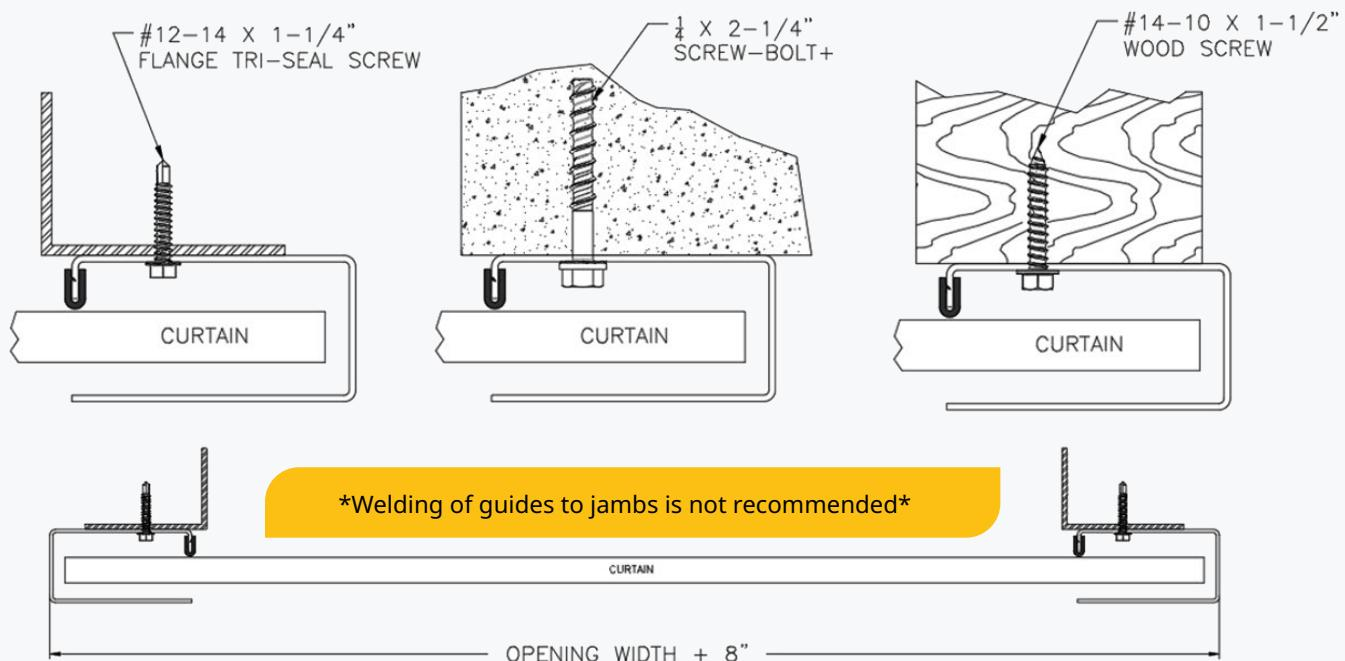

figure 15
- ♦ The guides should be positioned centered on the opening spaced curtain width +1" apart, measured from back of guide to back of guide. Both guides must be plumb and level. See **Figure 15**.